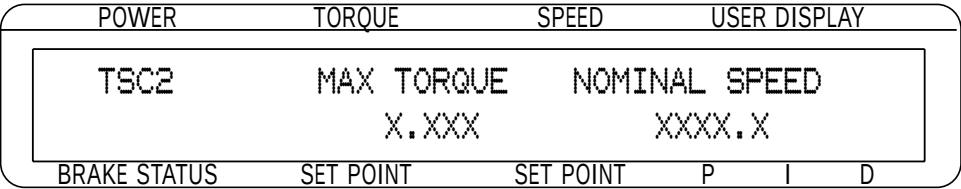
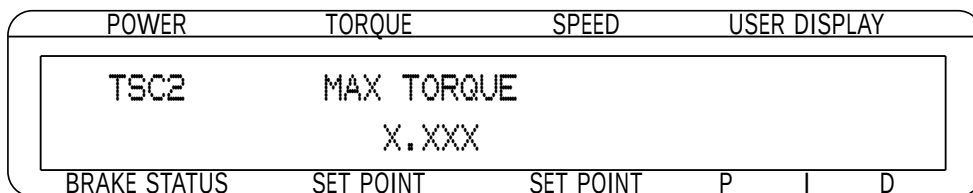
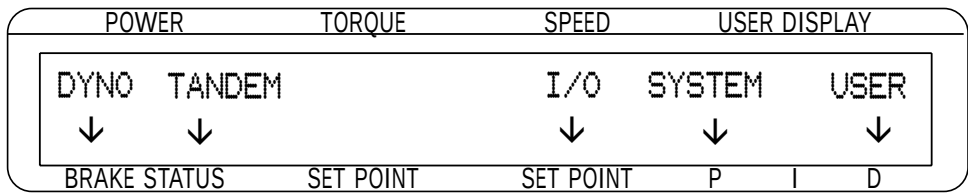

Figure 3-13 TSC2 Eddy-Current Setup Menu
Figure 3-14 TSC2 Powder Brake Setup Menu
Figure 3-21 Tandem Setup Menu
- 5b. If using a Powder Brake Dynamometer, press SHIFT. The display should appear as shown in *Figure 3-14 TSC2 Powder Brake Setup Menu*. Press the TORQUE UNITS button and use ◀ and ▶ buttons and Decrease/Increase dial to set desired max torque. Press SHIFT 2 times to return to the setup menu. See *Figure 3-21 Tandem Setup Menu*.
- 5.a. If using an Eddy Current Dynamometer, press SHIFT. The display should appear as shown in *Figure 3-13 TSC2 Eddy-Current Setup Menu*. Press the TORQUE UNITS button and use ◀ and ▶ buttons and Decrease/Increase dial to set desired max torque. Press the SCALE P button and use ◀ and ▶ buttons and Decrease/Increase dial to set desired nominal speed. Press SHIFT 2 times to return to the setup menu. See *Figure 3-21 Tandem Setup Menu*.
11. Press SHIFT to get to the TSC2 Powder Brake Setup Menu. See *Figure 3-14 TSC2 Powder Brake Setup Menu*.
13. Press SHIFT 2 times. The menu will appear as shown in *Figure 3-21 Tandem Setup Menu*.